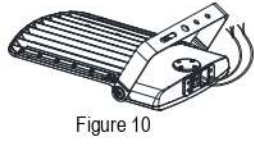

Figure 10
Step 2: Install two small screws. (Figure 10)